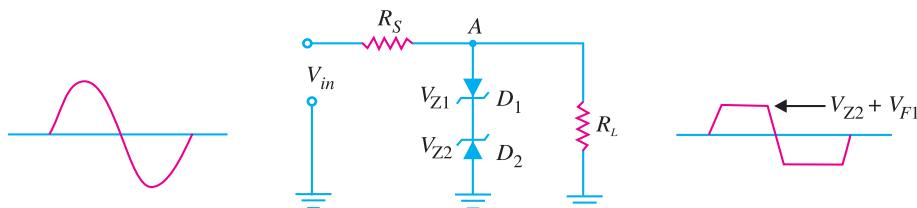

Fig. 18.43
**Example 18.17.** Fig. 18.43 shows a symmetrical zener shunt clipper with sine wave input. Determine the output waveform.
**Solution.** The *symmetrical zener clipper* uses two zener diodes that are connected as shown in Fig. 18.43. When the input is positive,  $D_1$  is forward biased and  $D_2$  is reverse biased (assuming that the value of  $V_{in}$  is high enough to turn both diodes ON). When both diodes are conducting, the voltage from point A to ground will be equal to the sum of  $V_{Z2}$  and the forward voltage drop of  $D_1$  i.e.,  $V_{F1}=0.7V$ .